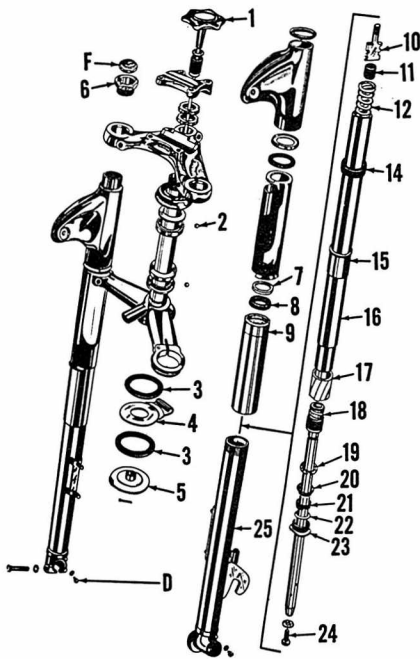

Fig. A3-6—Exploded view of front fork typical of all 175 and 250cc models.
**SUSPENSION.** The front fork is shown in Fig. A3-6. Oil should be drained from plug (D) every 4,000 miles. Refill at upper plug (F) with